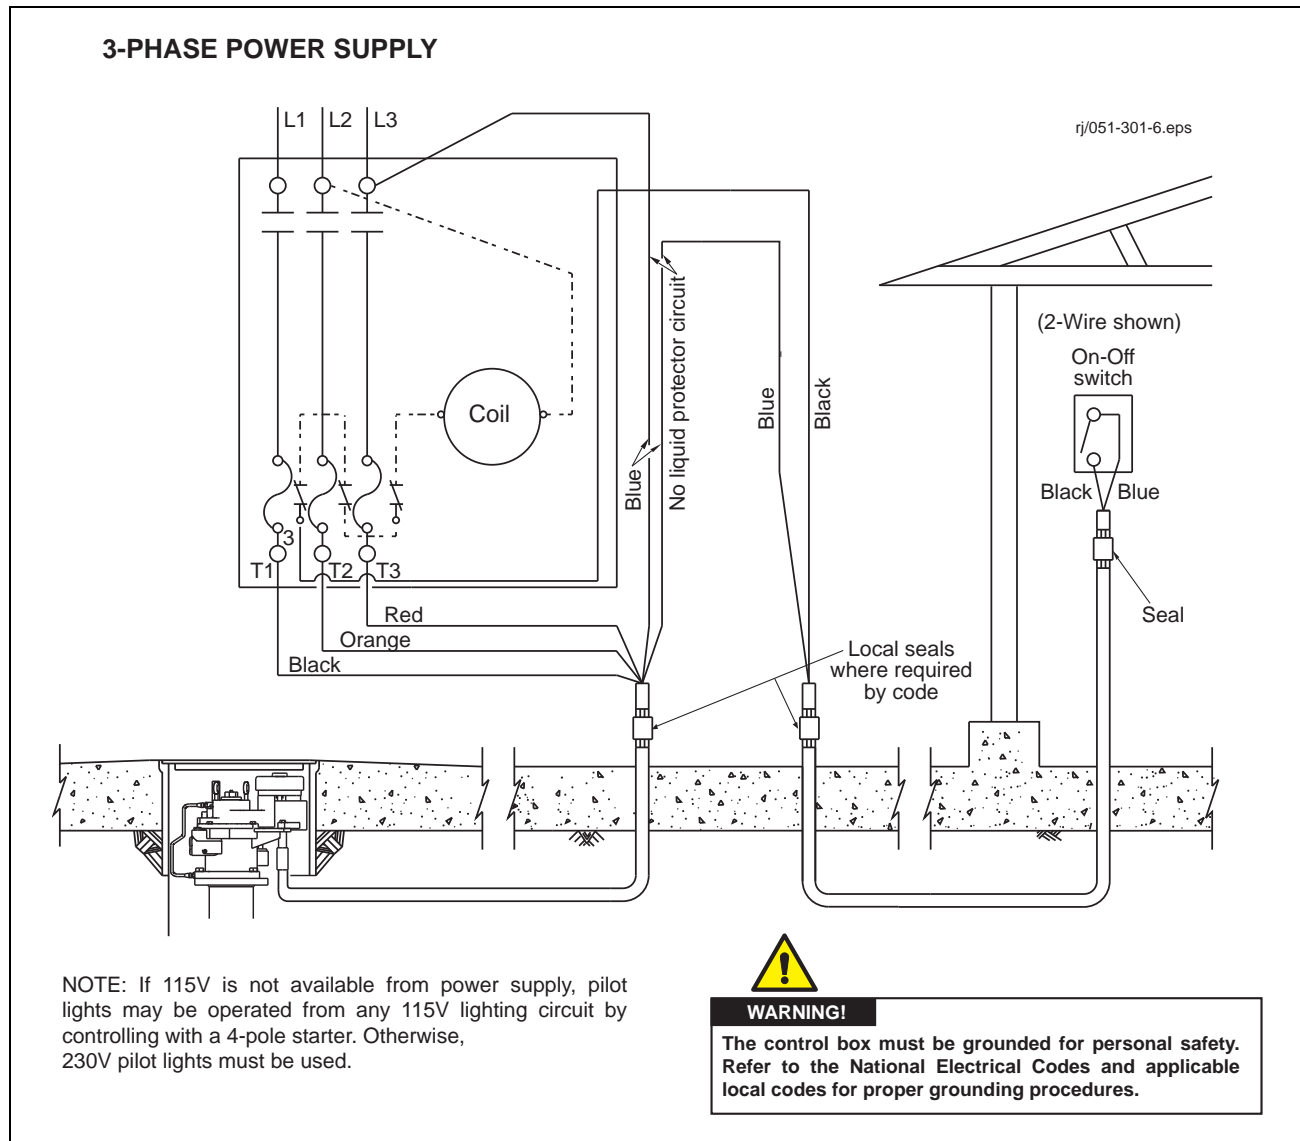

Figure 3. Representative Wiring Diagram, Three-Phase, Two-Wire Control
1. Installations where the magnetic starter is located away from the loading rack in a nonhazardous location. (See Figure 3)
- b. Using properly color coded wires, connect a black wire from terminal T1 in the magnetic starter to the black motor lead, in the junction box of the proper submerged pump. Connect an orange wire from starter terminal T2 to the orange motor lead and red wire from terminal T3 to the red motor lead. (See Figure 3 and Figure 4.)
Connect the pump motor leads to terminal T1, T2 and T3 of the magnetic starter observing color code shown in Figure 3 and Figure 4. With ample product in the tank and the system purged of air, start the motor and make a pressure gauge reading of the system pressure with the discharge valves closed; or, open one valve and calculate pumping rate.